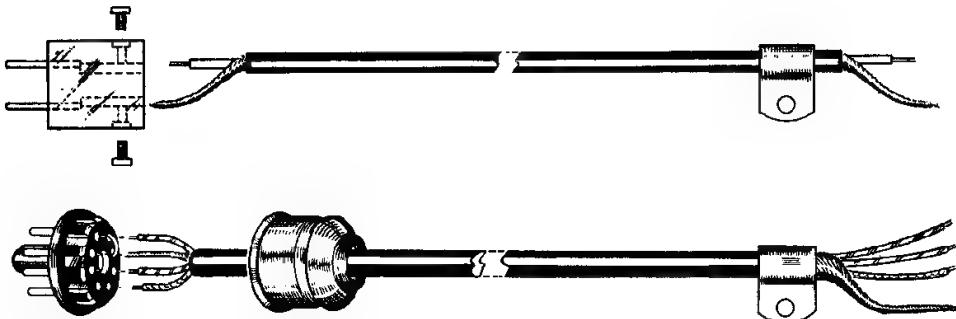
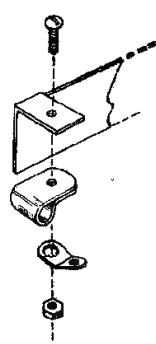

Figure 8
Figure 9
- X (✓) Strip 1" of the outer coating from both ends of the coaxial cable, comb out and twist the shield braid as shown in Figure 8.
- X (✓) Mount the cable clamp to the clamp bracket and include a soldering lug in the mounting as shown in Figure 9.
- X (✓) Connect a .005 disc ceramic capacitor from the solder lug (NS) to G1 (NS).
- X (✓) Twist the shield braid together and connect to the solder lug (NS).
- X (✓) Connect the inter coax conductor to the  $100 \mu\mu\text{f}$  capacitor coming from A5 (NS). See Pictorial 3.
- (✓) Connect a 47 KΩ resistor (yellow-purple-orange) from this point (S) to the solder lug (NS).
- (✓) Connect a bare wire to the same solder lug (S). Run the wire along the back of the chassis through G3 (S). Leave 1" extended free past G3.
- (✓) Connect free end of the 1.1 mh RF choke to G1 (S).
- (✓) Place a 1/4" cable clamp over the outer covering as shown in Figure 9.
- (✓) Insert the cable through grommet E2 and secure the cable clamp and a solder lug to the bracket in the same manner used with the coaxial cable. See Figure 9 and Pictorial 3.
- (✓) Twist the shield braid together and connect to the adjacent solder lug (NS). Cut off excess braid.
- (✓) Connect the wire coming from G3 to the solder lug (S).
- (✓) Connect the red wire to J2 (S).
- (✓) Connect the green wire to J4 (S).
- (✓) Connect the yellow wire to J1 (S).
- (✓) Refer to Figure 8 and prepare the remaining end of the coaxial cable as shown.
- (✓) Slide the octal socket cap over the wire as shown in Figure 8 with the large end toward the wire end.